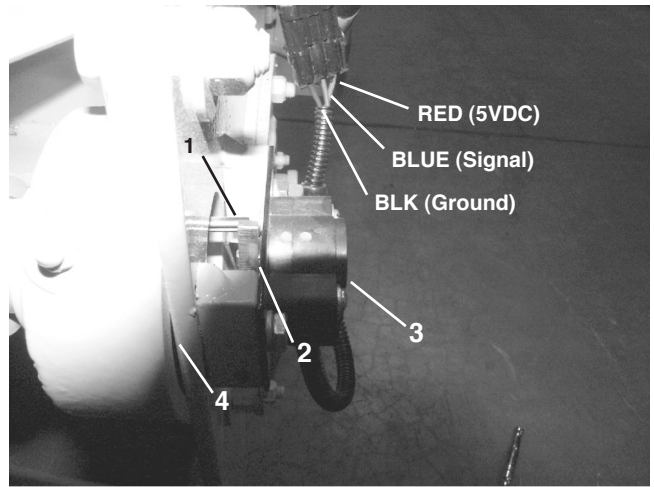

Figure 20. Left Hopper Transducer
7. Using needle probes on a digital voltmeter, measure the voltage between the red and black wires at the gate transducer (Fig 20). The value should be 5.0 volts DC. Next, check the voltage between the blue and black wires. This value should be between 0.5 and 1.5 volts DC.